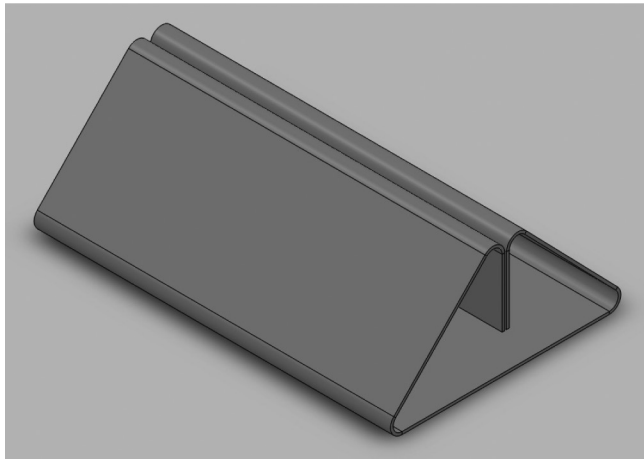

Fig. 8
- 7 Fig. 8 shows a CAD drawing of a menu holder for a cafe. The holder is to be made from 1.5 mm acrylic sheet.